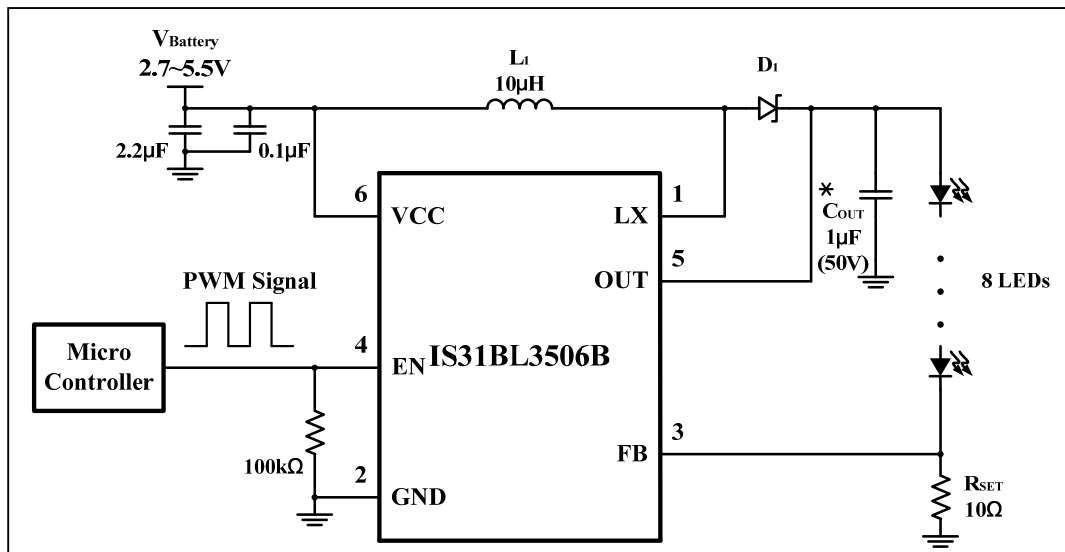

Figure 1 Constant current white LED driver using PWM at the EN pin to control intensity
When the IS31BL3506B is used for LED driving applications (Figure 1), the LED current flows through the external feedback resistor R_{SET} to regulate the LED current. The internal feedback regulation point is 0.2V. The maximum LED current may be calculated by the following equation, (1).
The EN pin of the IS31BL3506B can accept a PWM signal to implement LED dimming (Figure 1). LED current may be computed using the following equation, (2).